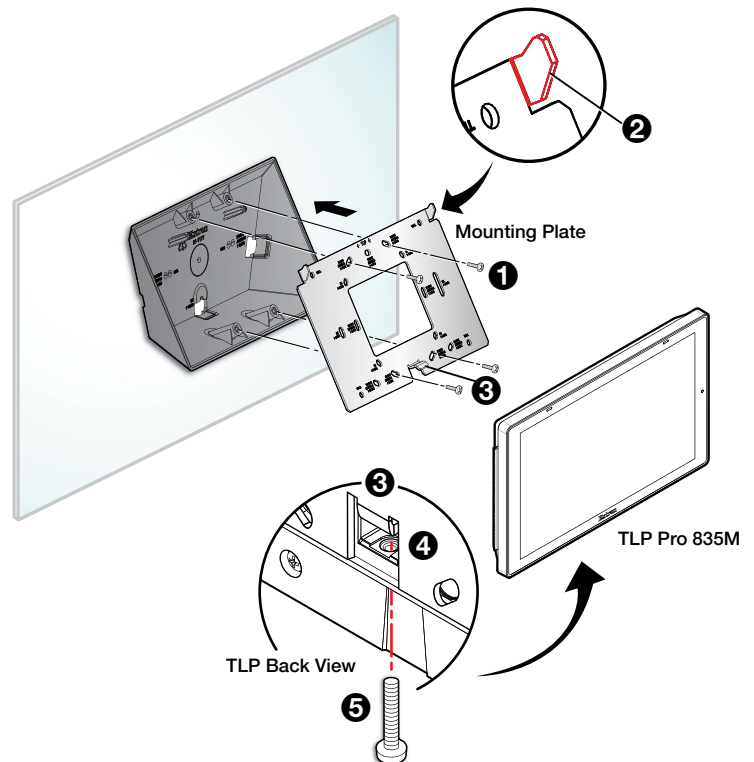

Figure 7. Mounting the TLP Pro 835M to the AMK 5
Figure 7 shows how to mount the TLP Pro 835M to the AMK 5. Mount the other touchpanels to the corresponding mounting kit in exactly the same way.
3. Fasten the mounting plate (provided with the touchpanel) to the AMK, using the four provided M3 screws (see figure 7, 1).
5. The mounting plate has two hooks (2), one on each top corner. Position the touchpanel so that these hooks fit into the two slots on the rear panel of the touchpanel (see the *TLP Pro x35 Series User Guide*).
7. The tongue at the bottom of the mounting plate (3) sits in the groove in the bottom of the touchpanel (see inset, 4). Fasten the touchpanel to the mounting plate by tightening the lock screw (5).